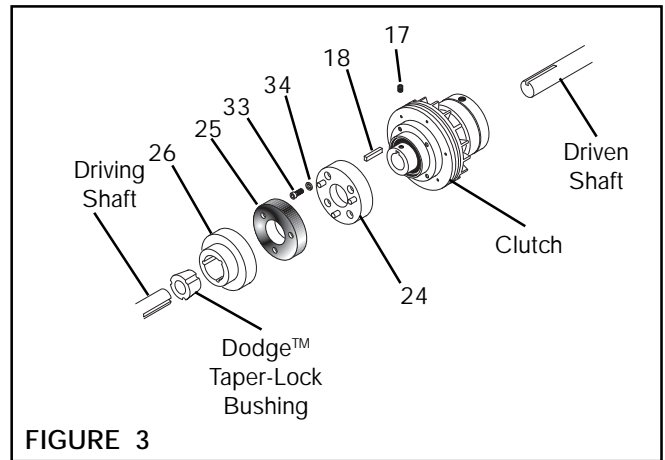

FIGURE 3
1. Determine the parallel misalignment of the shafts to be coupled by placing a straight edge across the shafts and measuring the maximum offset at various points around the periphery of the shafts. Make the necessary corrections to keep the shafts within the parallel misalignment limits of the clutch coupling (See Figure 3 and Table 5).
NOTE: Before installation, the driving shaft can be fixed, but the driven shaft must be allowed to float (See Figure 3).
2. Slide the Clutch onto the driving shaft until the end of the Clutch is flush with the end of the shaft (See Figure 3).
3. Insert the Key (Item 18) into the driving shaft and Clutch (See Figure 3).
4. Install and tighten the Set Screws (Item 17) to the recommended torque (See Figure 3 and Table 6).
5. Attach the Coupling Adapter Plate (Item 24) to the Clutch pilot using Cap Screws (Item 33) and Lock Washers (Item 34); then, tighten the Cap Screws to the recommended torque (See Figure 3 and Table 6).
6. Place the Coupling's Flexible Disc (Item 25) over the pins in the Coupling Adapter Plate (Item 24) (See Figure 3).
7. Insert the customer supplied Dodge™ Taper-Lock Bushing into the Coupling Hub (Item 26) (See Figure 3).
8. Align the holes (not the threads) and slide the Dodge™ Taper-Lock Bushing/Coupling Hub Assembly onto the driving shaft until it is flush with the shaft (See Figure 3).
10. Align the pins in the Coupling Hub (Item 26) with the holes in the Flexible Disc (Item 25) (See Figure 3).